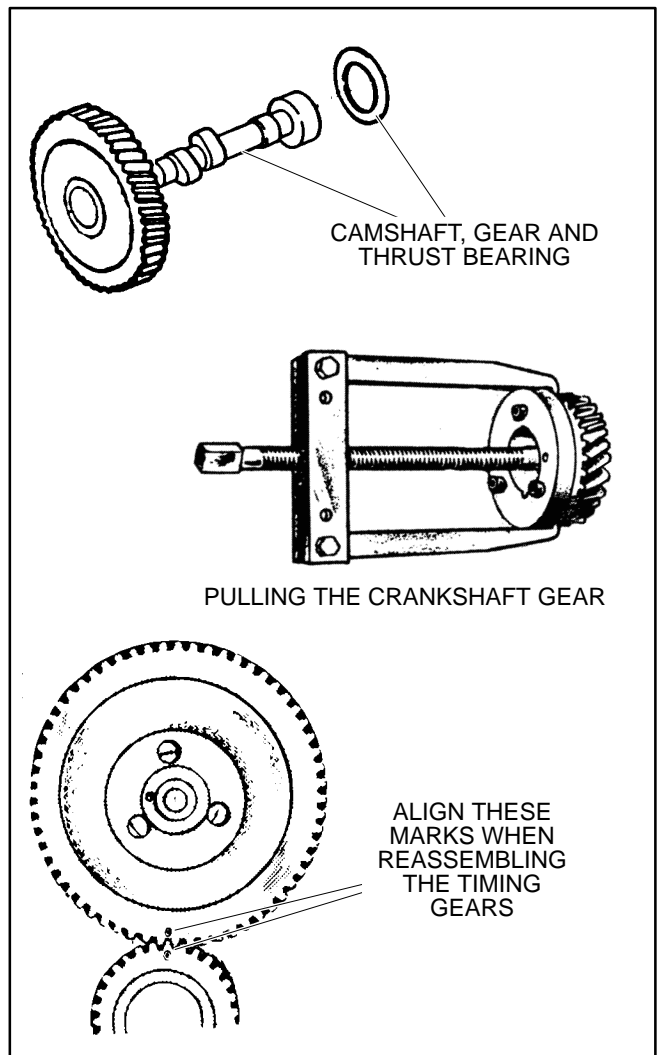

FIGURE 54. TIMING GEARS AND CAMSHAFT
6. Remove the crankshaft timing gear. Use a gear puller and ring bolted to the gear with 1/4-20x1 inch Grade 8 bolts (lesser grade bolts will snap off) (Figure 54), or the shoulder bolts and fly-wheel puller which are available.
5. Install the camshaft, making sure the thrust bearing is in place between the gear and the block and that the "O" marks on the timing gears line up (Figure 54).